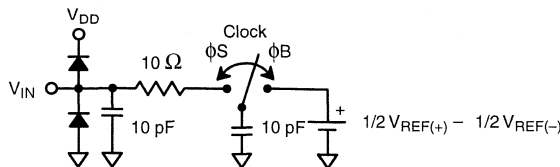

Figure 5. Analog Input Equivalent Circuit
- See V_{IN} input equivalent circuit (Figure 5). Switched capacitor analog input requires driver with low output resistance.